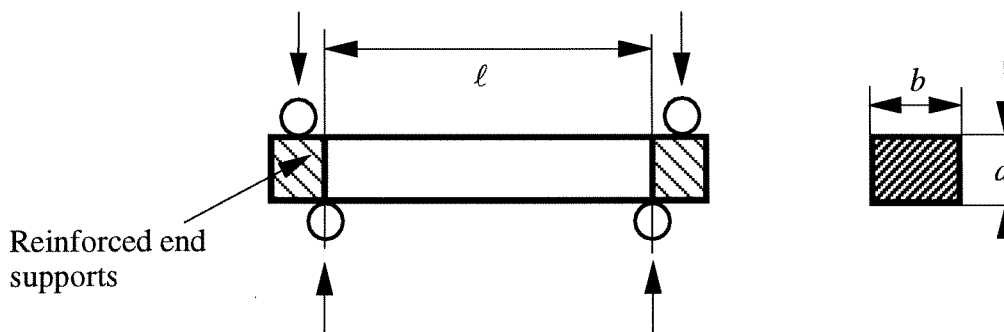

Fig. 4
- (c) Laboratory measurements of the strength of ceramics are commonly performed by axial-tension or 4-point bend tests on a beam of length  $\ell$ , breadth  $b$  and depth  $d$ , as illustrated in Fig. 4. Show that the strength of a test specimen of rectangular cross-section loaded in 4-point bending exceeds that loaded in axial tension by a factor of  $[2(m+1)]^{1/m}$ . Sketch the variation of this function with  $m$ . [Assume that the bending moment is constant between the reinforced end supports.] [6]